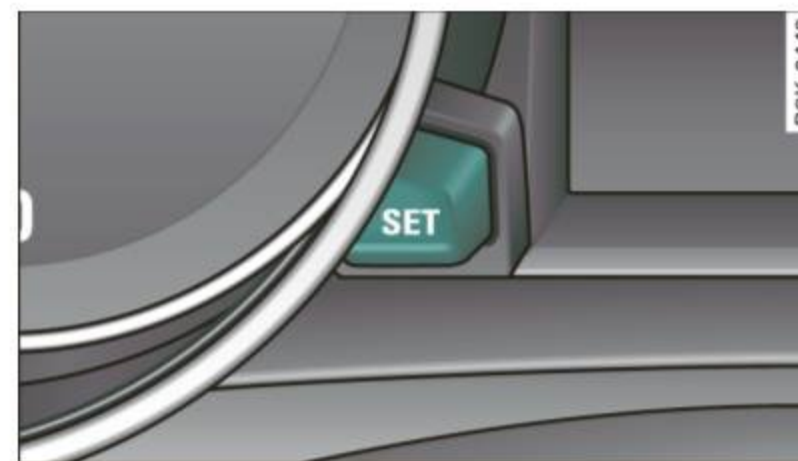

Fig. 23 SET button in the instrument cluster
- Press the  button in the instrument panel display ⇒ *fig. 23* for 1 second.